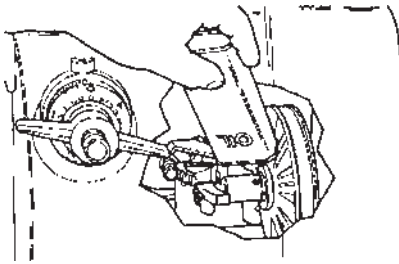

Figure D-2
11. Oil the upper control sheave first. While looking through the nameplate opening, turn the main spindle by hand until you locate the hole in the sheave. With the oil can tube inside the headstock apply 2-5 drops of oil in the hole, as seen in Figure D-2.